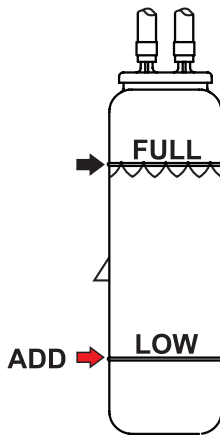

Figure 18. Coolant Recovery Tank
Day-to-day addition of coolant is done from the recovery tank Figure 18. When adding coolant to the radiator, **DO NOT** remove the radiator cap until the unit has completely cooled. See Table 7 for engine, radiator, and recovery tank coolant capacities. Make sure the coolant level in the recovery tank is always between the "FULL" and "LOW" markings.
1. Verify that the coolant level in the coolant recovery tank is between the **FULL** and **LOW** markings as shown in Figure 18.